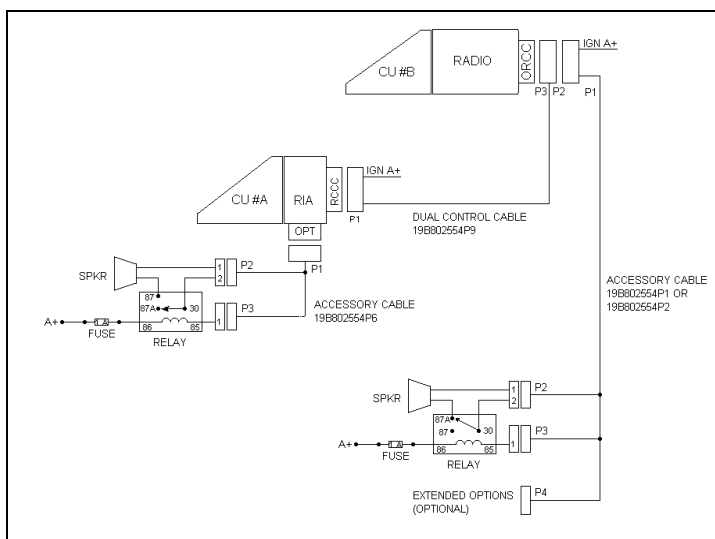

Figure 33 - ORION Dual Control Unit Front Mount/Remote Mount Installation Configuration
The Dual Control feature can be configured for either front mount or for remote mount Radio Units. Each configuration provides for a Main Control Unit and an Auxiliary Control Unit. In the front mount configuration, the Main Control Unit is on the Radio Unit itself (see Figure 33), with the Auxiliary Control Unit located in a convenient location. In remote mount configuration the Main Control Unit is typically located in the vehicle cab, with the Auxiliary Control Unit located in a convenient location (see Figure 34).
1. Referring to Figure 33, run the Dual Control Cable (19B802554P9) between locations for the Radio Unit and Auxiliary Control Unit. Be sure to locate the P2/P3 connector assembly at the Radio Unit.
9. Radio Unit Speaker: Connect the lead nearest the speaker to Pin 87A of the relay. Connect the lead nearest the connector to Pin 30 of the relay. Connect the connector to the Accessory Cable P2 (Refer to Figure 33).
10. Auxiliary Control Unit Speaker: Connect the lead nearest the speaker to Pin 87 of the relay. Connect the lead nearest the connector to Pin 30 of the relay. Connect the connector to the Accessory Cable P2 (Refer to Figure 33).
11. For each relay: Connect a #18 AWG black wire between the relay, Pin 85 and Accessory Cable P3-1 (labeled “OUT2” on the schematic diagrams in the service manual). Use a 1/4” tab receptacle on the relay side and mating Molex connector and pins on the accessory cable side. Connect the mating Molex connector to the Accessory Cable P3 when finished (Refer to Figure 33).
12. For each relay: Connect a #18 AWG red wire to the relay, Pin 86. Cut to length, and connect to the 1 amp fuse holder supplied. Use crimp on connectors supplied. Connect the other side of the 1 amp fuse holder to A+ battery source or vehicle A+ fuse block. Use #18 AWG red wire and ring lug supplied., if needed (See Figure 33).